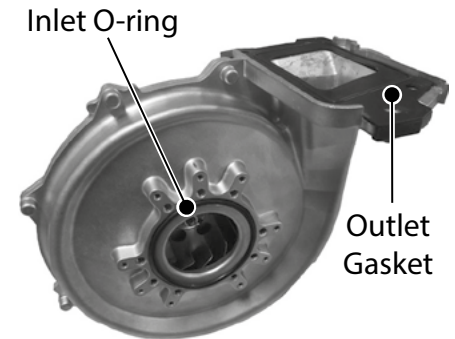

Figure 14 - Install inlet O-ring and outlet gasket to new fan assembly
- 21** Locate the new fan outlet gasket, and inlet O-ring provided in kit. Install outlet gasket and inlet O-ring to fan (see Figure 14). Once installed, make sure the outlet gasket and inlet O-ring are fully seated and not damaged.